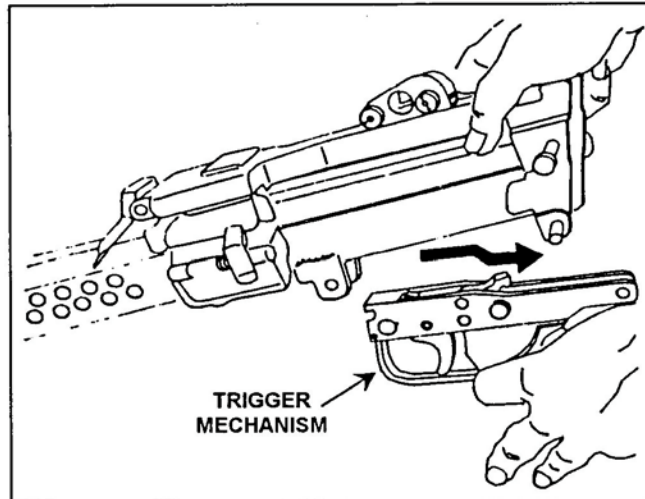

Figure 12. Removal of the trigger mechanism.
h. Remove the trigger mechanism by pulling rearward and down (Figure 12).